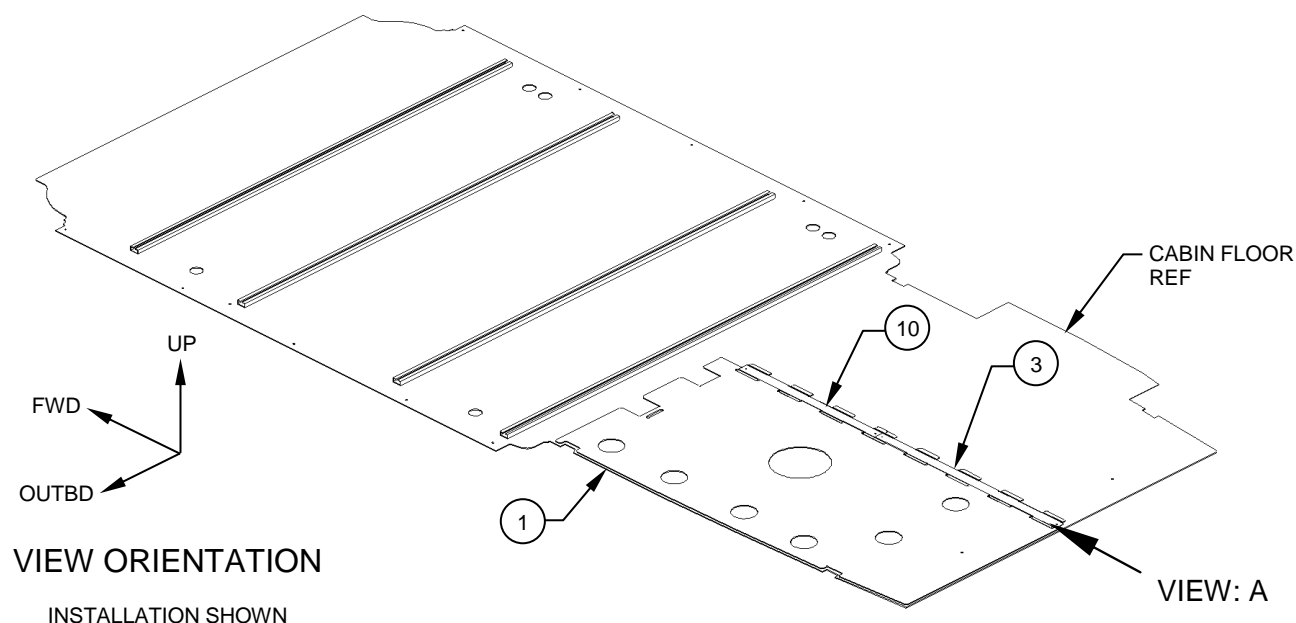

Figure 10
3. Position the LHS Panel Assy (Item 1) on the floor in its approximate position with the Velcro strips facing down as shown. Reference Figure 10.
4. Install the Retainer Strip, Assys (Item 3 & 10) by inserting the tabs into the provided slots in the panel as shown. Reference Figures 10 & 11.